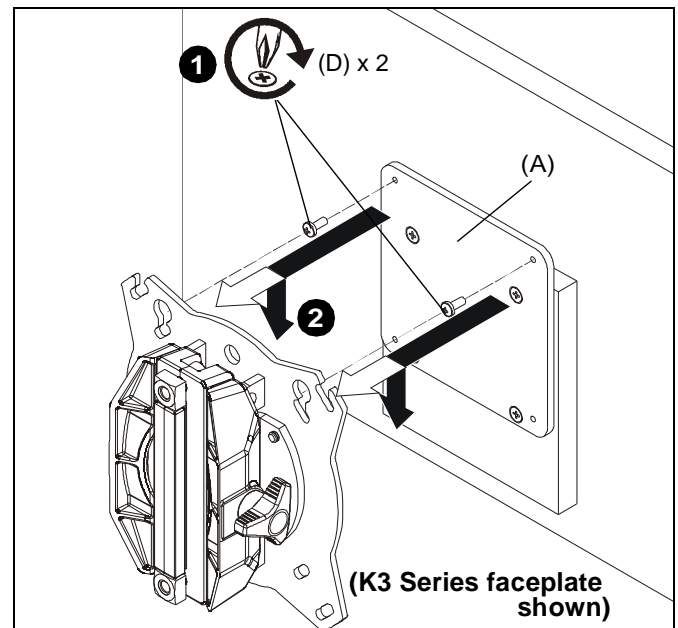

Figure 3
1. Using Phillips screwdriver, carefully install two M4 x 6mm Phillips pan machine screws (D) (silver) into the *upper* mounting holes on the interface bracket (A). Thread screws completely into interface bracket (A), then back out 3 complete turns. (See Figure 3)
2. Pick up and align display so that screws (D) (installed on the back of the interface bracket in the previous step) fit into the mounting holes on the faceplate. Lower the display firmly into place. (See Figure 3)